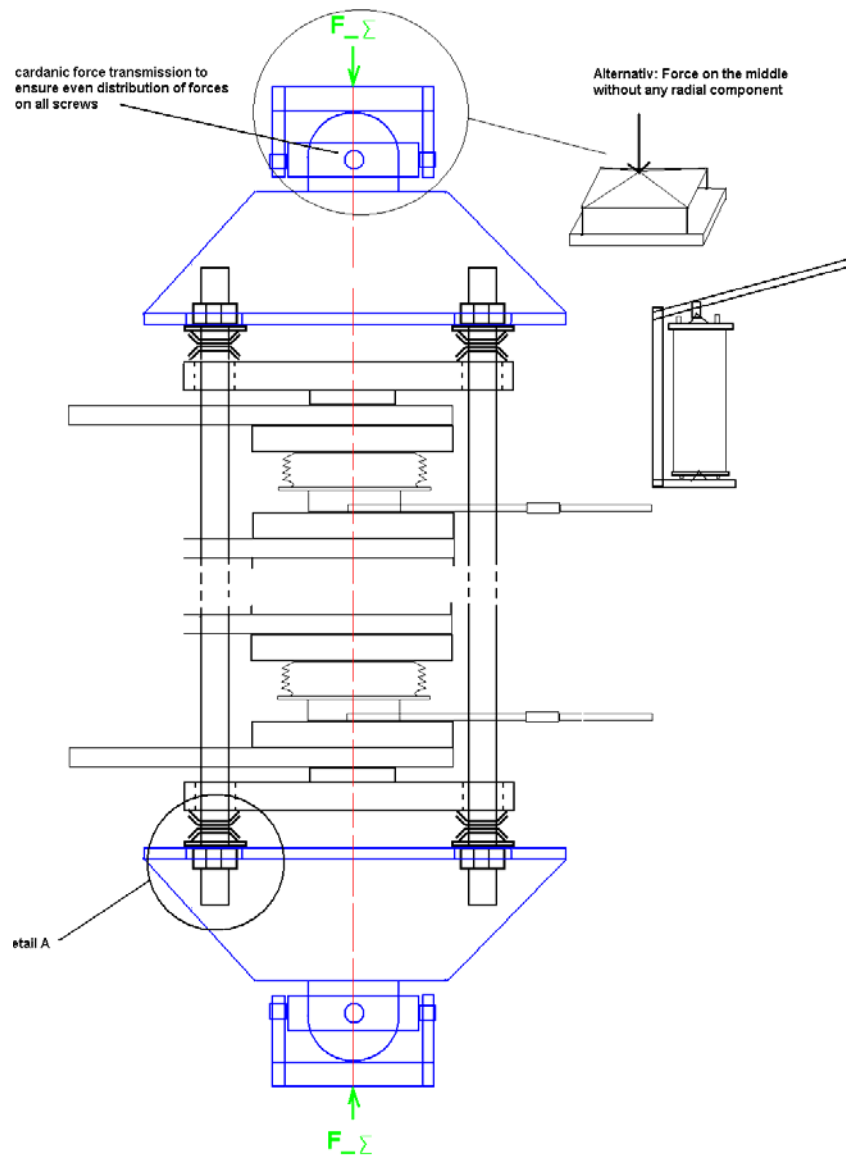
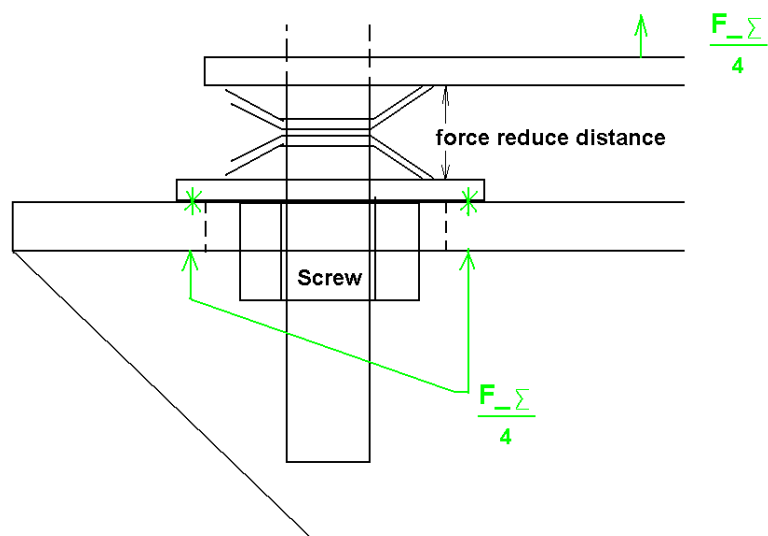

Figure 8: Exchange of parts in water cooled BipSTACKs
Figure 9: Spring assembly
This chapter is valid for all stacks similar shown in Figure 8. These are typically water cooled stacks but can also be customer specific air cooled e.g. for pulsed power.
7. Insert the Stack in a tool to press → all Parts of the Stack (refer to Figure 8 and Figure 9)